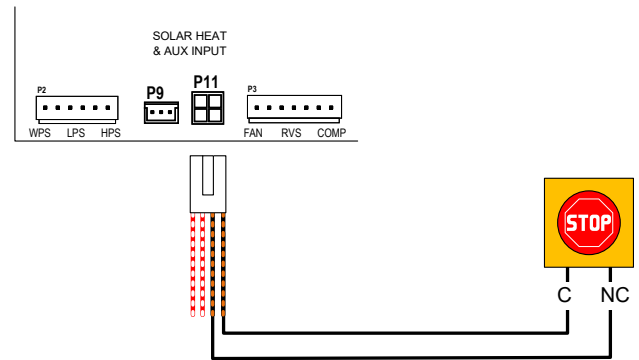

Figure 155. Auxiliary Input Wiring
2. Inside the heater's control box, connect the 2-wire cable to the control board terminal labeled "SOLAR" [P11] using the harness adapter labeled "Solar Temperature Sensor / Auxiliary Safety Input" supplied with the heater in the accessories bag. Make sure to use only the orange wire with black stripes to connect the external safety device. See **Figure 155** for details.